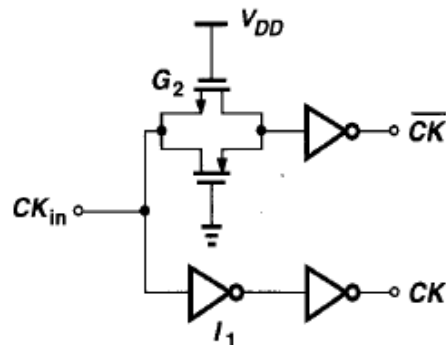

Figure 12.18 Simple circuit generating complementary clocks.
- Fig. 12.18 shows a complementary clock generator for moderate precision.